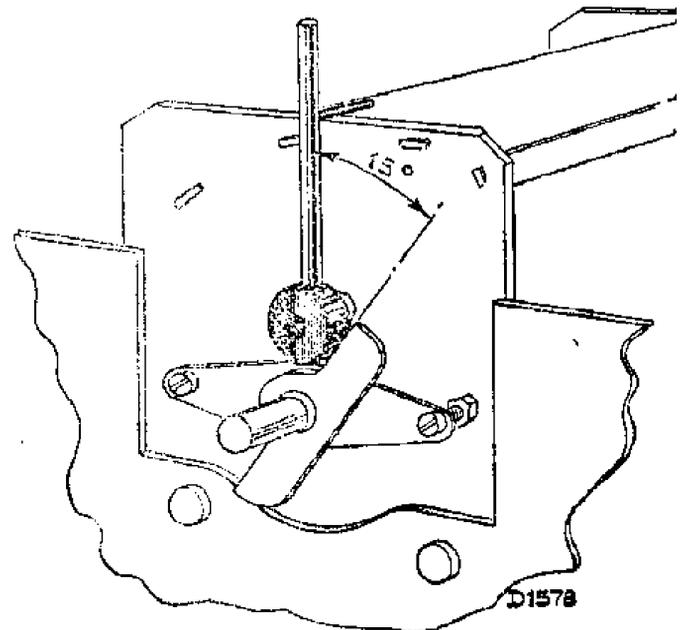

Fig. 5.
4. Fit  $15^\circ$  jig and set variable condenser to the jig (Fig. 5) (minimum capacity).